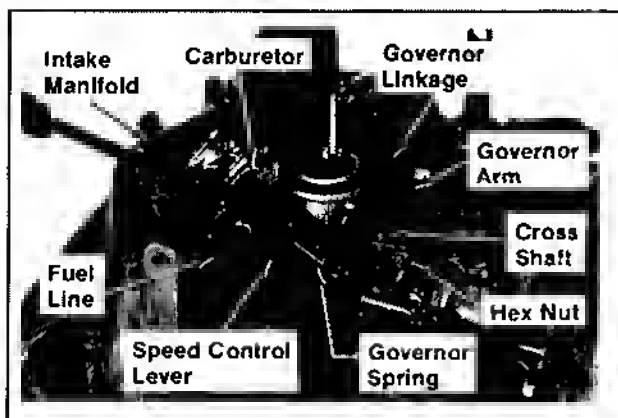

Figure 9-6. Removing Governor Arm, Carburetor, and Intake Manifold.
1. Note the position of governor spring in governor arm and speed control lever. Loosen the hex. nut and remove governor arm and plain washer from cross shaft. Refer to Figure 9-6.